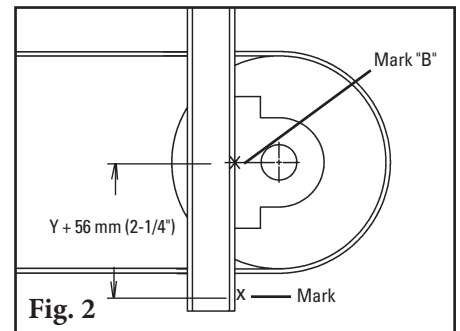

Fig. 2
4. **Mark X dimension.** Subtract the above dimension (Step 2) from the selected X dimension to establish the modified X dimension. With this new X dimension measure horizontally from the front of the pulley shaft forward on Line B and mark on the chute (Fig. 2).
- Measure down the given Y dimension plus 56 mm (2-1/4") and make a mark (Fig. 2).** This mark indicates the top location of support material to be added for installing the cleaner mounting brackets.
2. Install an adjusting arm onto pole end. Rotate the tensioner around the pole until the optimum mounting position is located. The J bolt mount can be located in any position 360° around the pole. The only requirement is that the J bolt and spring remain perpendicular to the adjusting arm (Fig. 2 & 2a).
2. **Position the pole.** Rotate the pole upward to bring the tips into contact with the head pulley (Fig. 2). Then centre the tips across the belt. While applying light pressure on the centre tip, shift the loosened bearing mount until the tips are contacting the belt evenly across the full width. Lock the cleaner into this position by tightening the bearing mount bolts.
- 2. Reassemble the spring assembly.** Slide the spring, washer and bushings onto the pivot arm and turn the two adjusting nuts so about 6 mm (1/4") of the pivot arm is exposed above the nuts (Fig. 2).